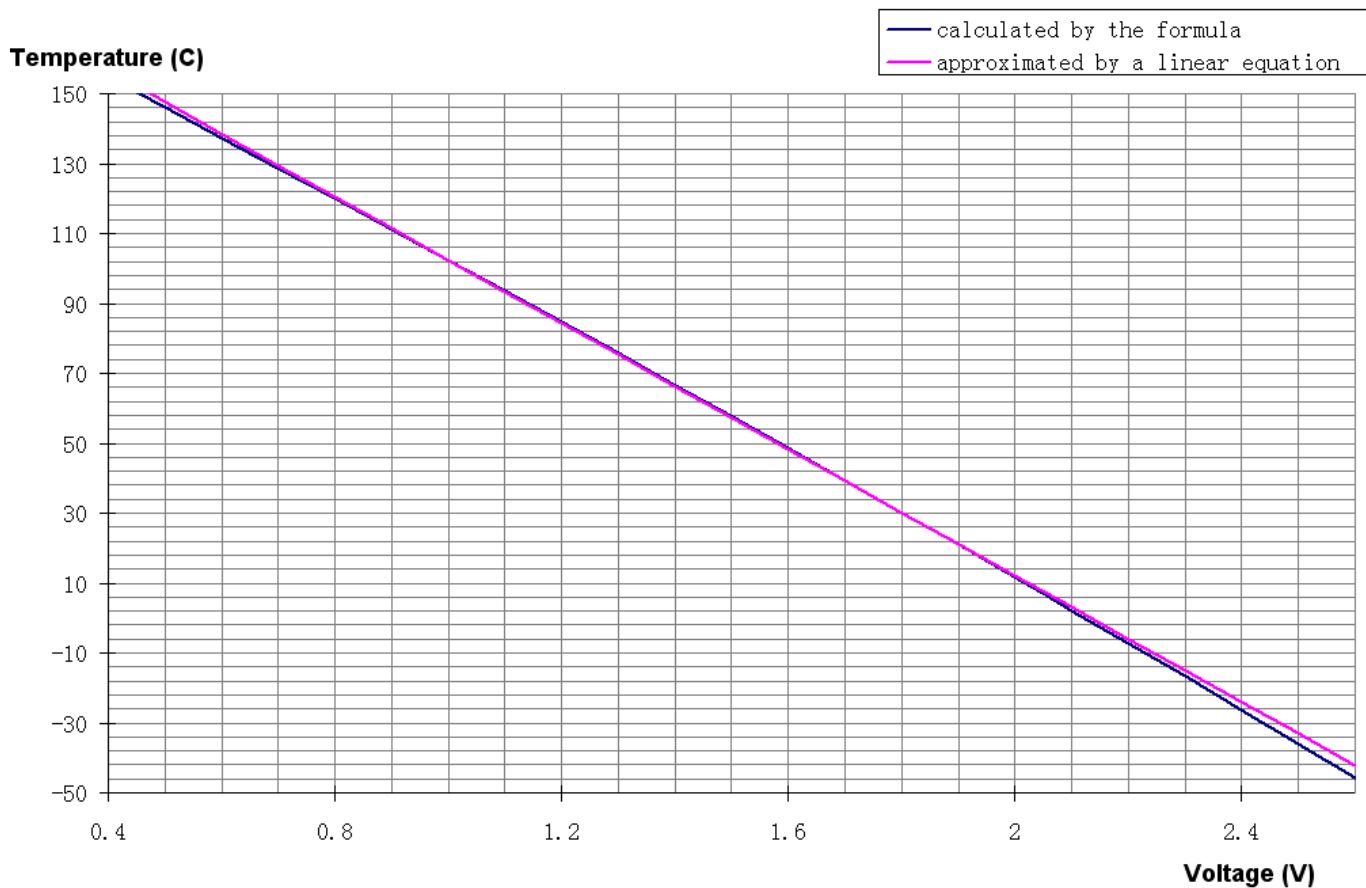

Figure 13. Controller Internal Temperature vs. TMPO Voltage
Within the most commonly used temperature range of between 0°C to 100°C, the maximum error occurs at about 1.5V, at which the temperature error between the calculated data by using the formula (1) and the approximated data obtained by using the linear equation (2) is about 0.4°C, with the linear data being a little lower. The curves of the 2 sets of the data are plotted in Figure 13.